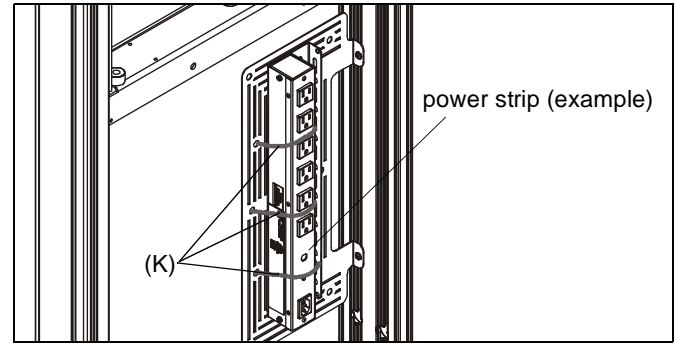

Figure 14
5. Install components to component bracket as desired using cable ties (K), cable clips (T) or screws. (See Figure 14)